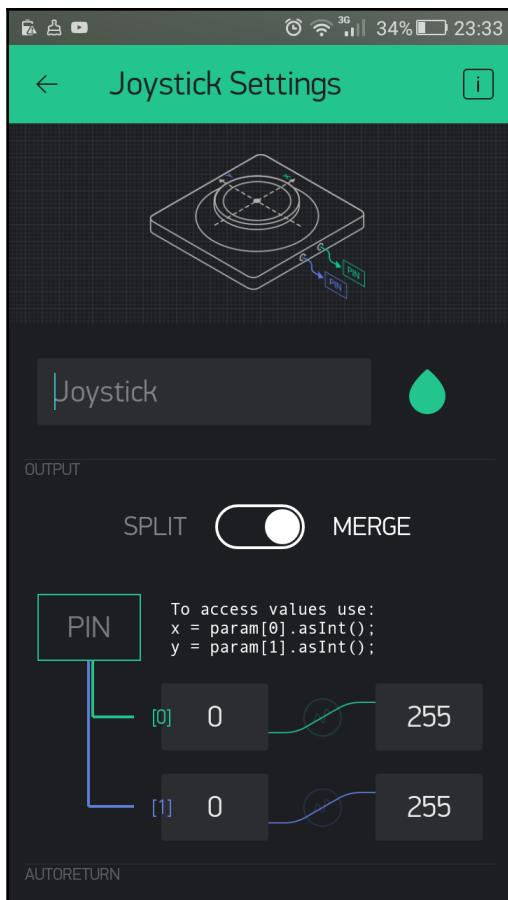

Figure 4.6: Setting the OUTPUT to MERGE mode
- The **OUTPUT** of the joystick should be set to the **MERGE** mode (*Figure 4.6*). In the **MERGE** mode, the joystick sends one message, consisting of an array of values, to the microcontroller hardware so that you can parse the values on the hardware: